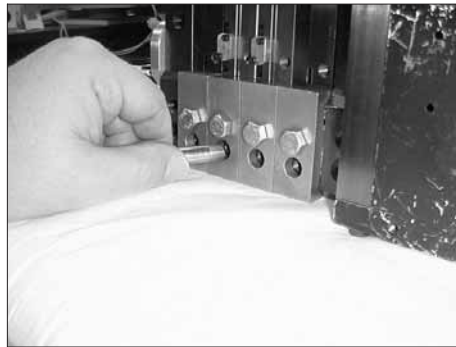

Figure 7-33 Installing a temperature sensor thermowell
6. See Figure 7-33. Once pump clamps are tightened, install the temperature sensor thermowell(s) and tighten them with a large flat-blade screwdriver.